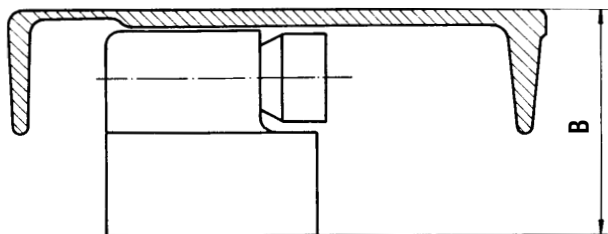

Fig. 20
20. Setting of the needle bar and of the hook shaft position (Fig. 20, 21)